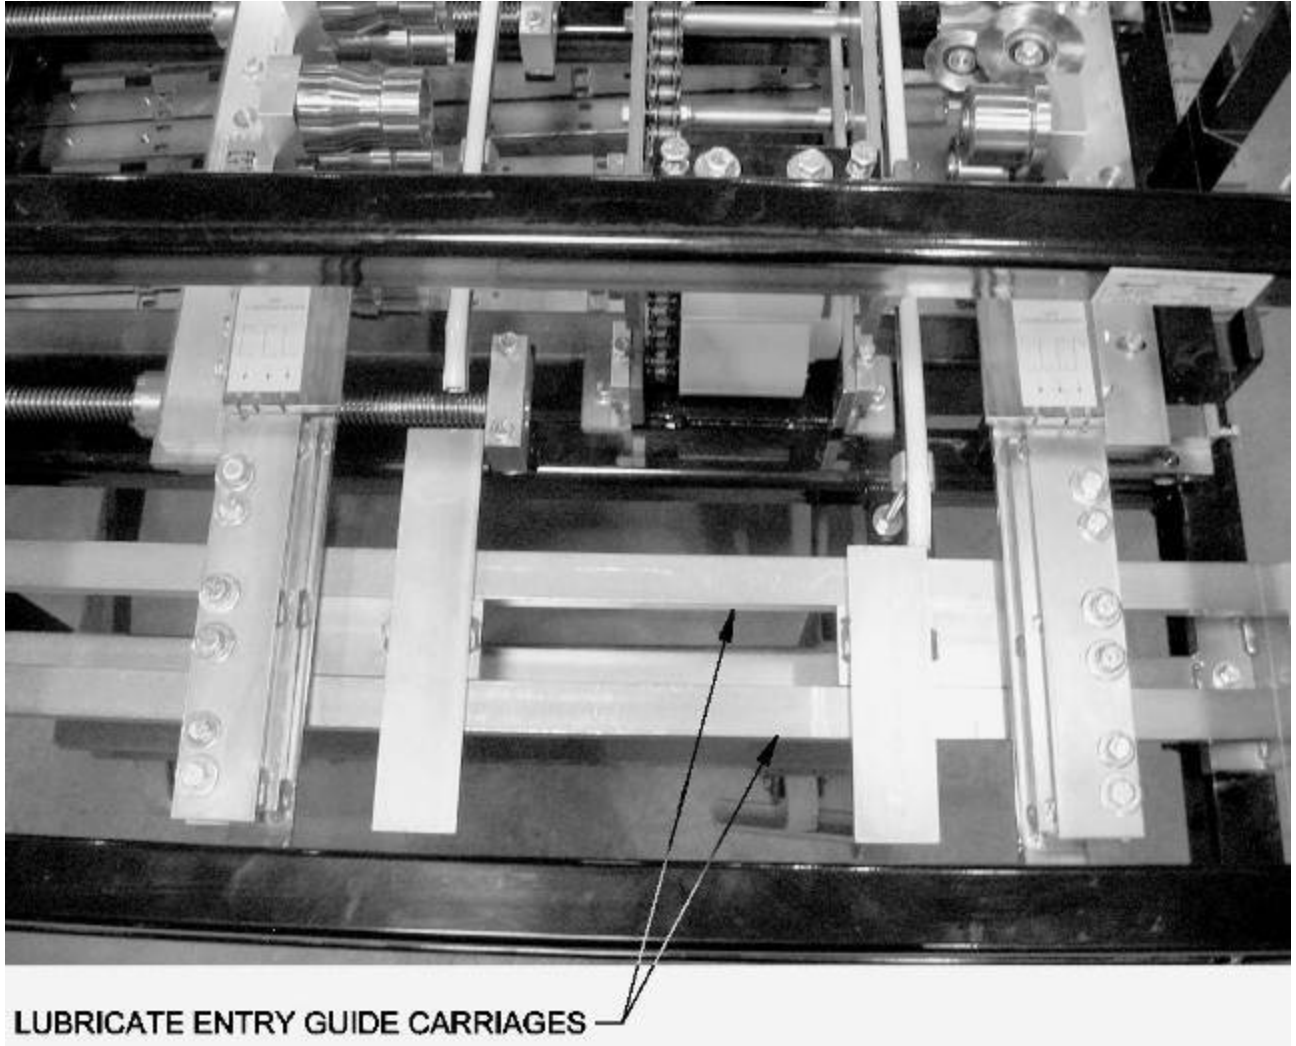

Figure 3: Entry Guide
8. Keep Entry Guide Carriage (Figure 3 on page 7) clean and lubricate as needed Spray Lube.